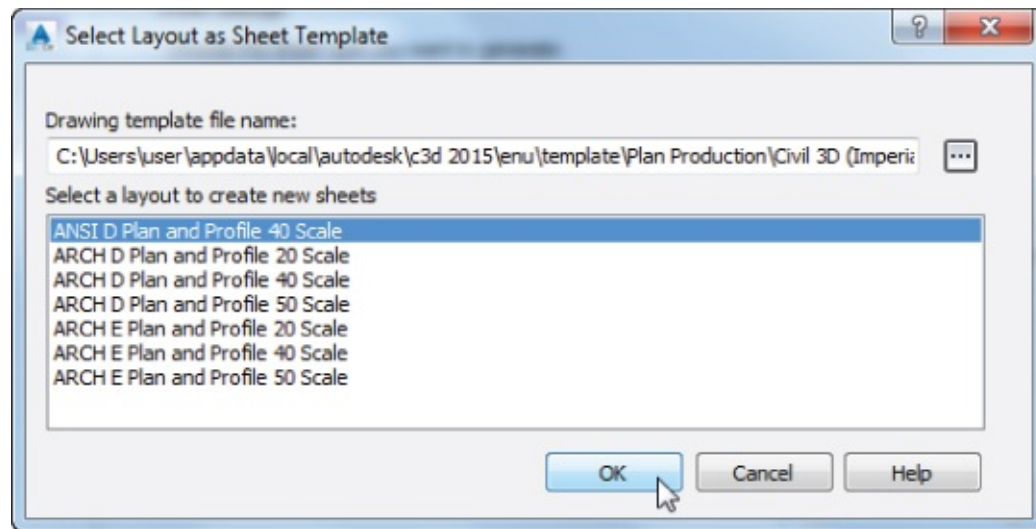

Figure 15.4 Use the Select Layout As Sheet Template dialog to choose which layout you would like to apply to your newly created sheets.
1.  Click the ellipsis button on this page to display the Select Layout As Sheet Template dialog, shown in Figure 15.4.
Notice that in the template selected (see Figure 15.4) there are layouts for various sheet sizes as well